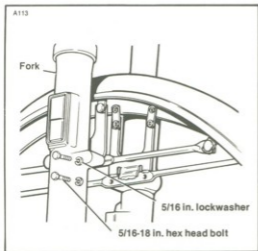

Figure 2-123. Front Fender Removal
2. See Figure 2-123. Remove the four bolts lockwashers securing the fender to the fork sides.